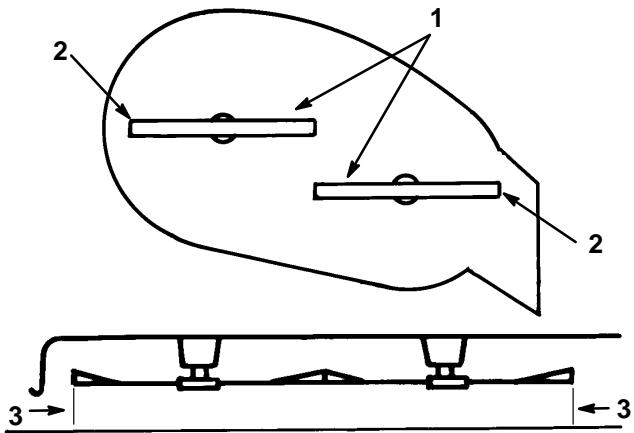

Figure 48
4. Carefully rotate blade(s) side to side (Fig. 48). Measure between the outside cutting edges and the flat surface (Fig. 48). If both measurements are not within 3/16" (4.8 mm), an adjustment is required; refer to steps 5 and 6.